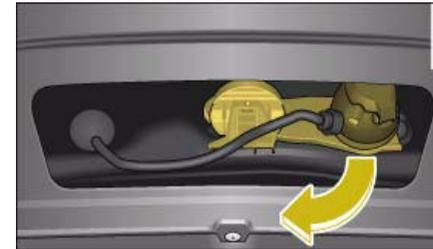

Fig. 236 Area below rear bumper: Folding down the socket
- Fold the socket unit all the way out in the direction of the arrow ⇒ fig. 236.